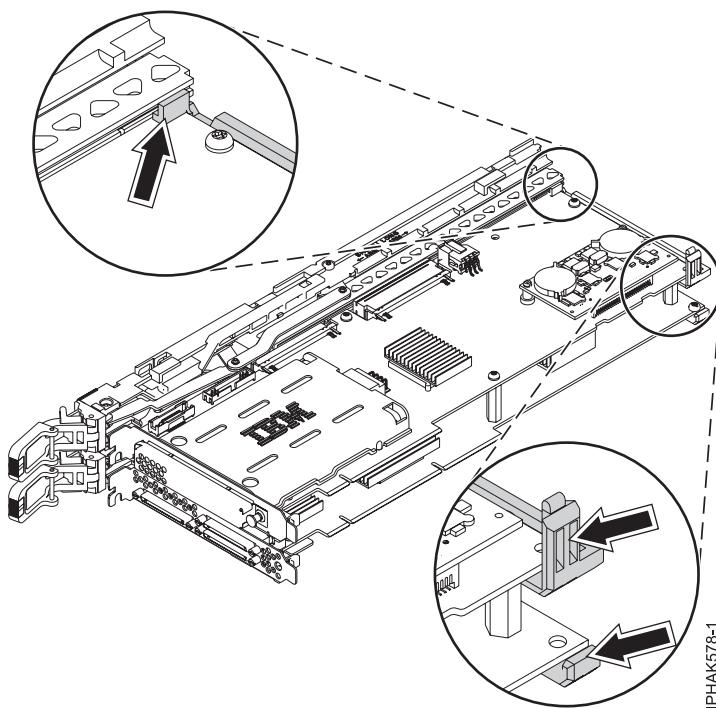

Figure 72. Detaching the rear arms of the cassette assembly
- b. Detach the rear arms of the cassette assembly from the bottom corners of the double-wide adapter. See Figure 72 on page 81.